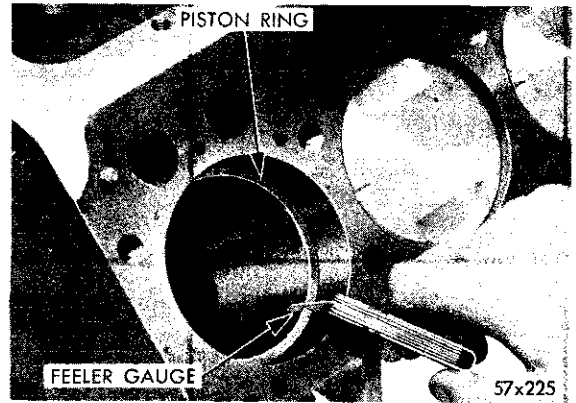
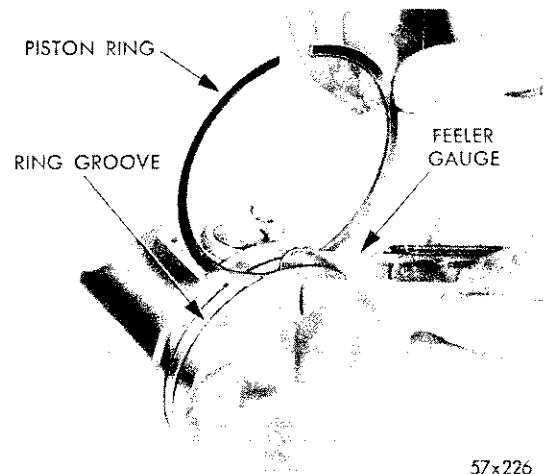

Fig. 42—Checking Ring Gap in Cylinder Bore (FirePower)
Fig. 43—Checking Piston Ring Side Clearance
Measure piston ring gap about two (2) inches from bottom of cylinder bore in which it is to be fitted. (An inverted piston can be used to push the rings down to position.) This will insure positioning rings exactly square with cylinder wall before measuring. Insert feeler stock in gap (Fig. 42). The ring gap should be between .010 to .020 inch. This measurement is the same for all rings. Measure clearance between piston ring and ring groove (Fig. 43). The clearance should be .0015 to .0030 inch for top compression ring, .001 to .0025 inch for intermediate ring, and .001 to .003 for oil con-